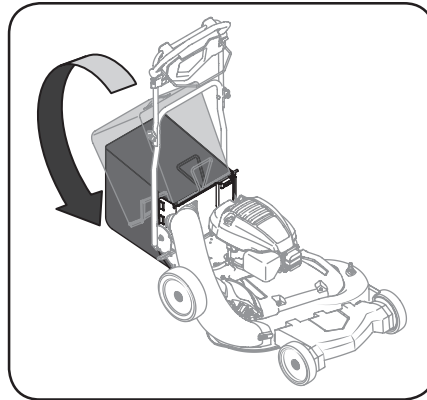

Figure 2-8
- d. Pivot the grass catcher down so that it rests over the rear opening of the mower. See Figure 2-8. Let go of discharge door so that it rests against the grass catcher.